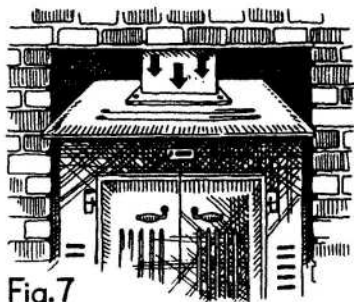

Fig. 7
16. Carefully pull the adapter and insert collar down until it seats on the furnace cement and over the flue opening of the stove. With the holes in the stove, insert the capscrews (0706) and finger start the nuts (0709.) With two wrenches, secure the adapter to the stove. (Figures 7 and 8)